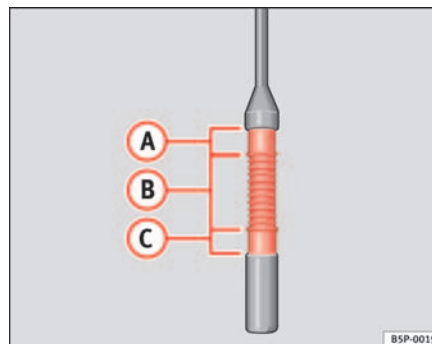

Fig. 154 Engine oil dipstick.
- Pull the dipstick out again and check the oil level ⇒ page 206, fig. 154.
If the oil level is in area ⇒ page 206, fig. 154 **A**, do not top up with oil.